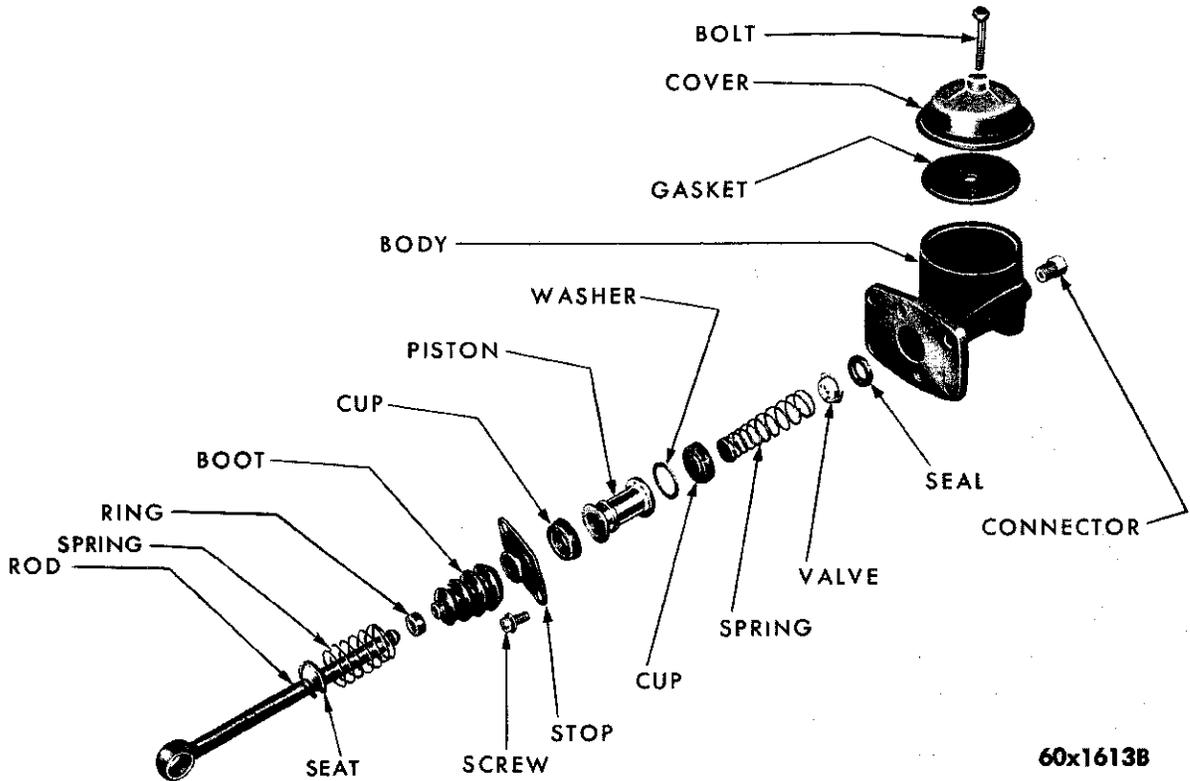

Fig. 7—Master Cylinder Assembly (Disassembled)
- (1) Remove the pedal return spring.
- (2) Disconnect the push rod from the pedal.
- (3) Disconnect the brake tube at the master cylinder.
- (4) Remove the nuts and bolts that attach the master cylinder to the dash panel. Slide the master cylinder straight out and away from the dash panel.
**Disassembly (Fig. 7)**
Clean the outside of the master cylinder thoroughly, then remove the cover and drain all the brake fluid. Refer to Figure 7 and disassemble the master cylinder for inspection as follows:
(1) Install the seal check valve and spring in the cylinder with the valve toward the outlet of the cylinder (Fig. 7).
(2) Install the master cylinder cup in the cylinder with the open end of the cup over the closed end of the return spring.
(3) Install the secondary cup on the master cylinder piston and install the piston and push rod assembly in the cylinder with the flat brass washer between the piston and the cup.
(4) Install the dust boot on the push rod and install the stop flange screws.